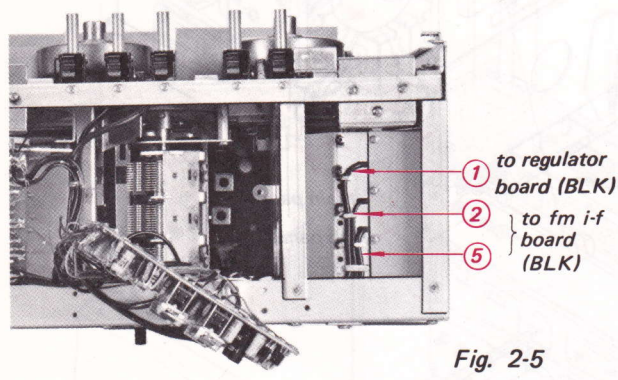

Fig. 2-5
3. Remove the three shield wire (①, ② and ⑤) shown in Fig. 2-5.